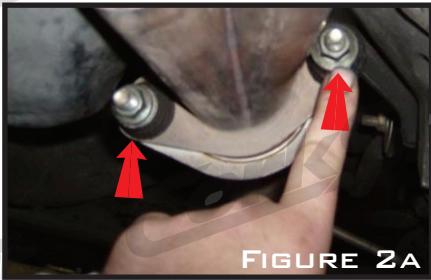

FIGURE 2A
A) APPLY PENETRATING SPRAY (PB BLASTER, AEROKROIL, WD-40) AND REMOVE THE TWO 14MM HEAD NUTS FROM THE J SECTION OF THE DOWNPIPE TO FORWARD EXHAUST SECTION CONNECTION SHOWN IN FIGURE 2A AND RETAIN THE SPRINGS FOR LATER USE. IF THEY ARE DIFFICULT TO REMOVE, RESPRAY AFTER THEY'VE BACKED OFF A BIT, RETIGHTEN AND LOOSEN TO WORK THE PENETRATING SPRAY INTO THE THREADS.